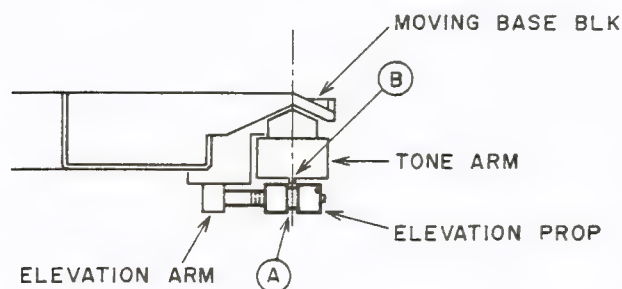

Fig. 6-1
### 6-2 ELEVATION AND POSITION ADJUSTMENT (Refer to Fig. 6-1)
Then, bring the Elevation Prop close to the Tone Arm, and adjust the Elevation Prop with a flat type screw-driver to the place where the position of the notch (A) on the Elevation Prop coincides with the projecting part (B) on the Tone Arm as shown in Fig. 6-1.